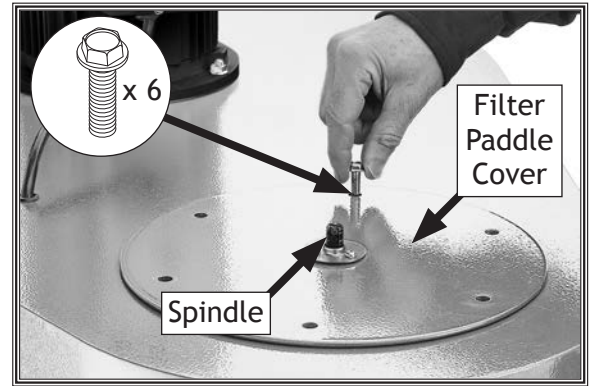

Figure 62. Removing filter paddle cover.
4. Remove (6) $\frac{5}{16}$ "-18 x $\frac{3}{4}$ " flange bolts securing filter paddle cover to impeller housing, then lift cover over spindle (see **Figure 62**).